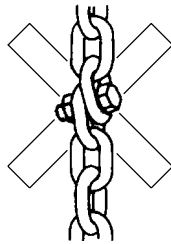

Fig. 6
- Do not knot or shorten the load chain by using bolts/screws/screwdrivers or other devices (Fig. 6). Do not repair load chains installed in the hoist.